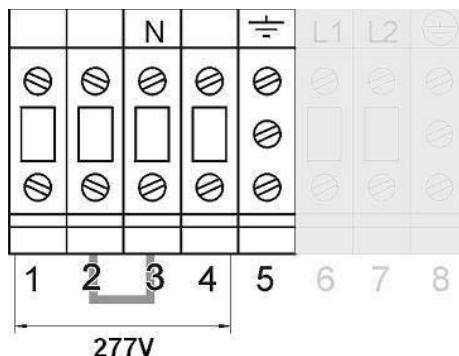

Figure 11b. LP11 924 6&10 kVA: 277 Vac output connection
3. Connect the output wires to the terminals 1 (L1) and 4 (L2) and ground wire to terminal 5. Ground connection is essential! See figure 11b.